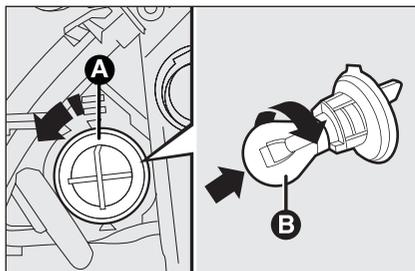

fig. 15
- turn the bulb holder clockwise **A**-fig. 15 and withdraw it;